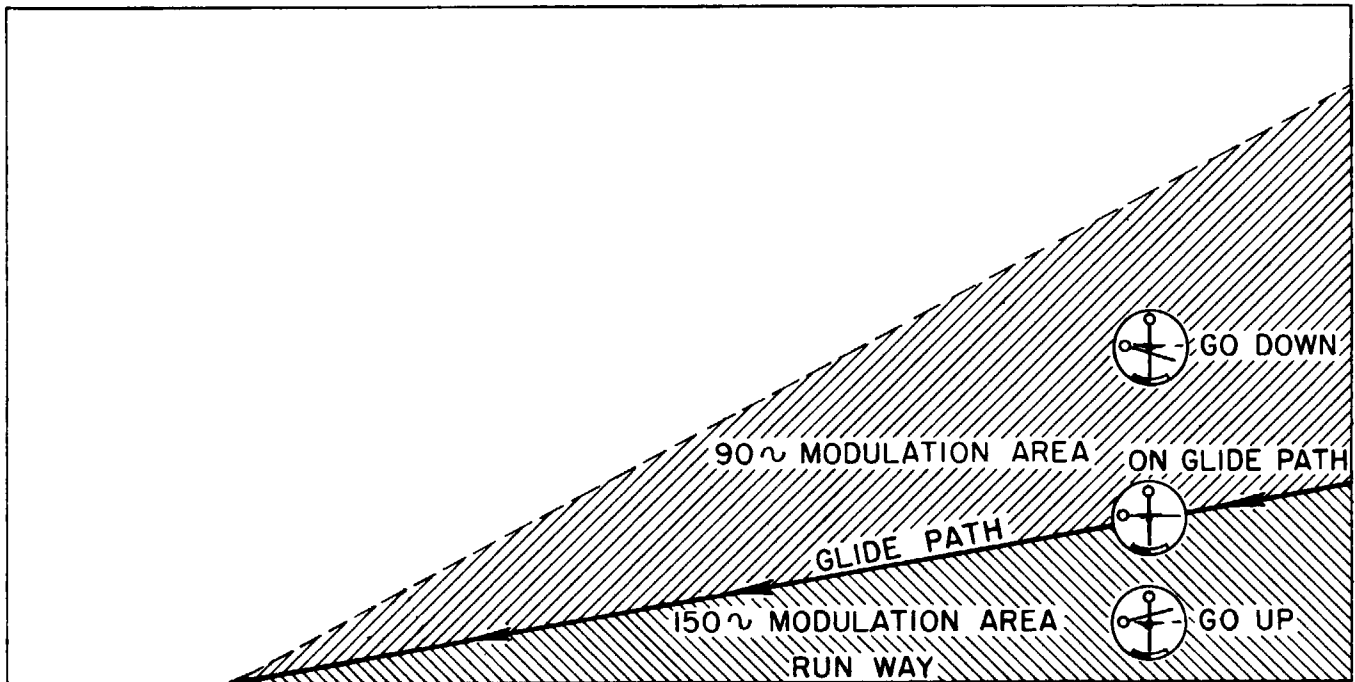

Figure 3-2. Glide-Path Chart
a. Figure 3-2 shows the glide path which radiates from the glide-path transmitter located on the ground adjacent to the landing strip.
b. Also shown in figure 3-2 are the indicator's horizontal needle positions and the significance of these positions to the pilot. It is evident that the aircraft's